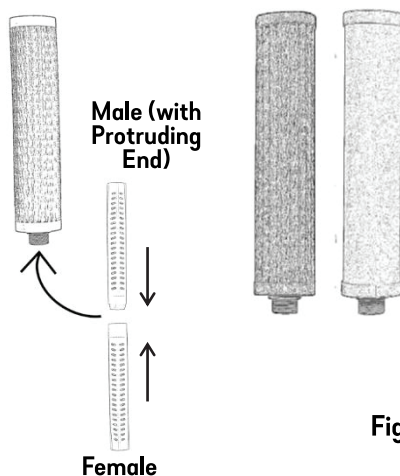

Fig.4
5. Take out the cartridge (Disruptor/Ceramic) from the box. Connect the male and female stick capsules and insert into the filter element cap. **(Fig. 4)**